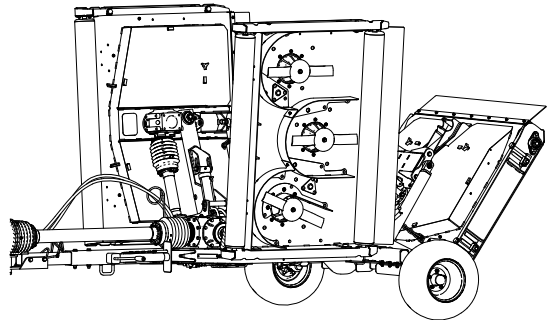

Figure 69
2. Raise and latch the mower decks, shut off the engine, and remove the key (Figure 69).